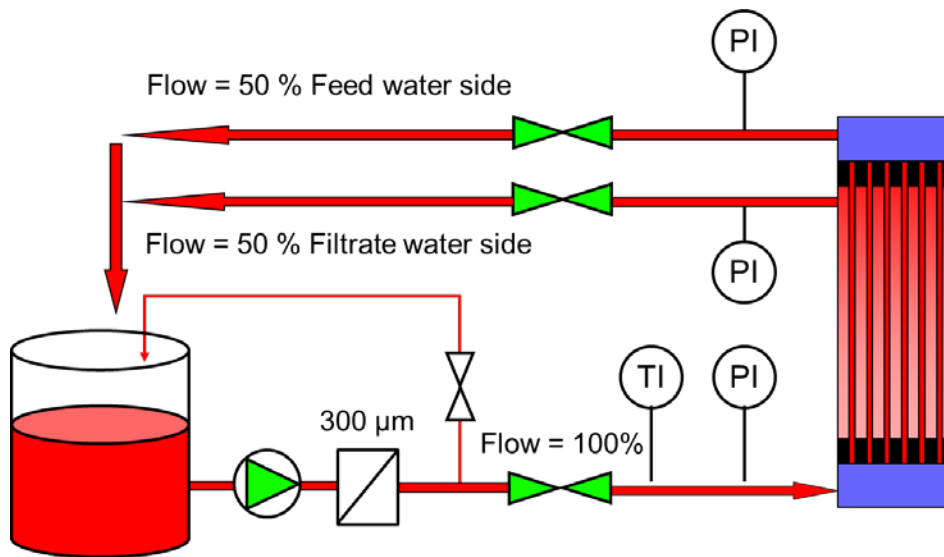

Figure 6-3: Circulation on feed and filtrate sides
5. Once at least 60 min have passed with the solution circulating exclusively through the feed side, the process moves on to a second stage in which the filtrate side is incorporated in the recirculation process. This involves opening the filtration valve and throttling the feed top valve (Figure 6-3) to allow a partial flow (50%) of the cleaning solution through the membranes into the filtrate return. It is important to ensure a filtrate side venting.